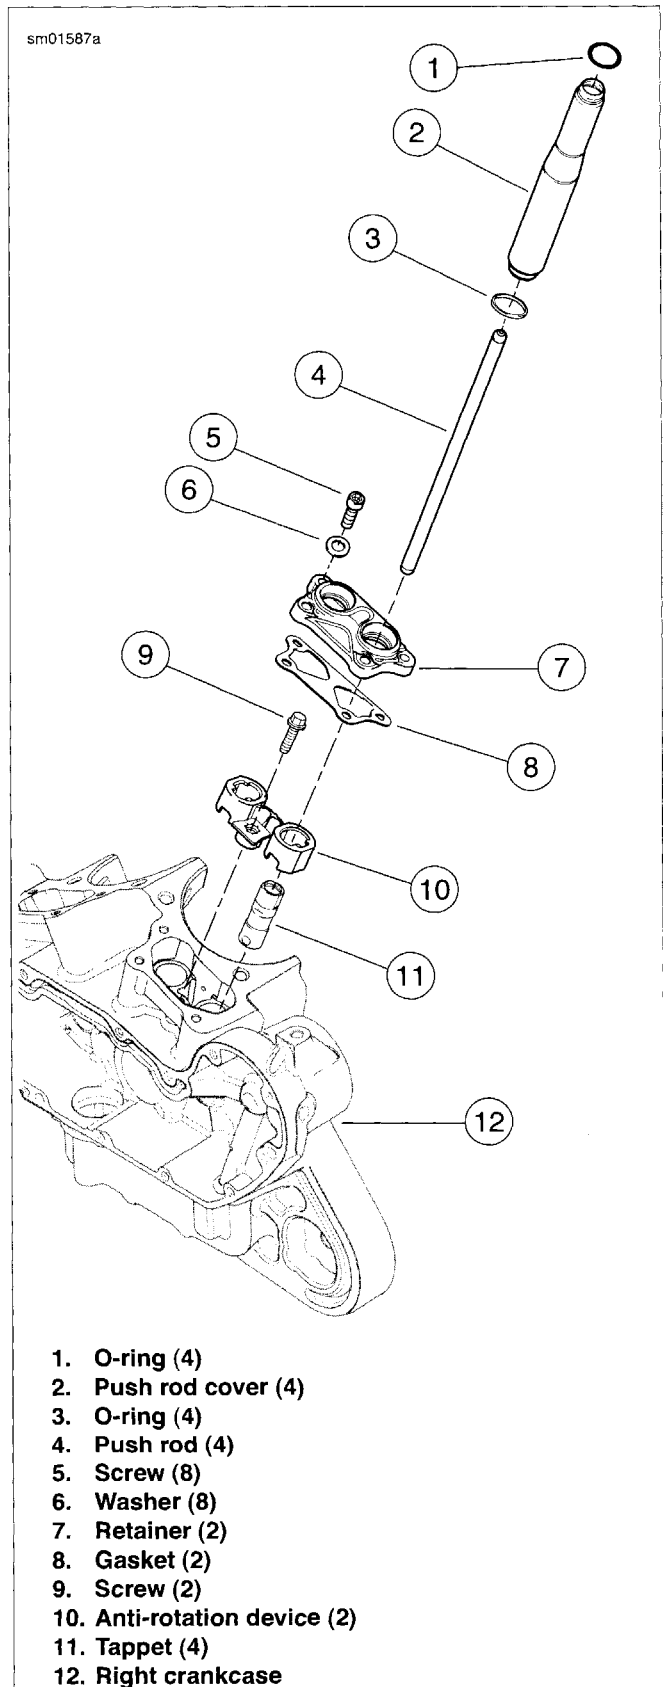

Figure 3-49. Middle Valve Train Components
1. See Figure 3-49. Remove push rod covers (2), O-rings (1, 3) and push rods (4). Mark the location and orientation (top and bottom) of each push rod. Discard O-rings.
2. Remove socket screws (5) and washers (6). Remove retainer (7) and gasket (8). Discard gasket.